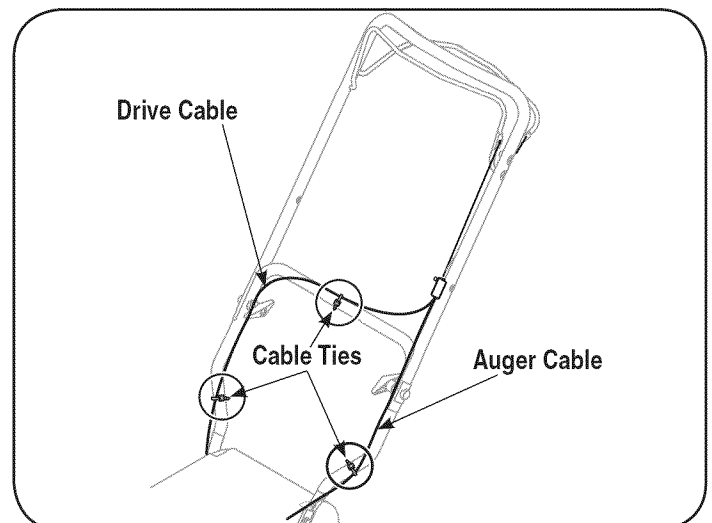

Figure 3
2. Slide the loosely fitted cable tie from the right side of the lower handle up to the cross member of the lower handle. Leave the second cable tie in place on the right side of the lower handle. See Figure 3 for reference.
NOTE: The auger cable routes down the left lower handle and the drive cable is routed across the top of the lower handle and down the right side of the lower handle. See Figure 3.
6. Three cable ties have been used to loosely tie the control cables to the lower handle, including the cable tie you relocated in step 2. Position cable ties now, as in Figure 3, and tighten to secure cables to the lower handle. Trim off excess material of cable ties.